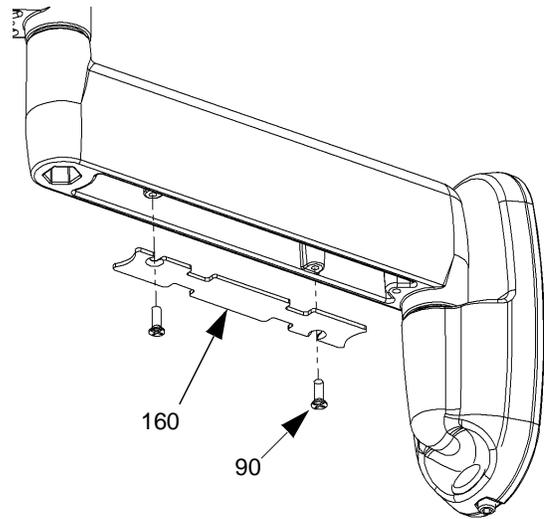

Figure 9: Cable Management
2. Secure cables using cover plate (160) and two screws (90) (see Figure 9).